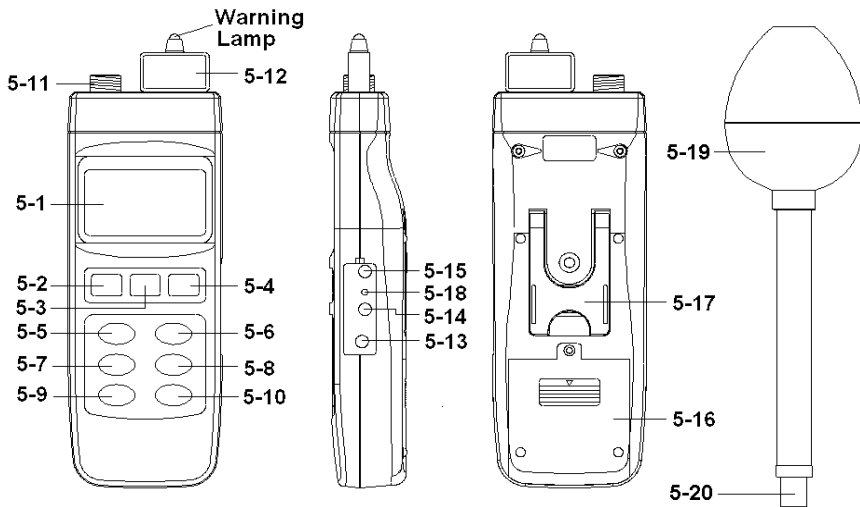

Fig. 1
2) After select convenient the probe, then plug in the exclusive " Probe Memory Card " ( 5-12, Fig. 1 ) into the front end socket of meter.
\* Make sure to use the " Frequency Team Button " ( 5-5, Fig. 1 ) to select the convenient frequency value of measuring object.
After inserting the " Probe card " ( 5-12, Fig. 1 ) and connecting probe's plug into the " Probe Input Socket " ( 5-11, Fig. 1 ), use " Unit Button " ( 5-6, Fig. 1 ) to select the " V/m, W/m2, mW/cm2 ".
1) Use the " Freq. Team Button " ( 5-5, Fig. 1 ) to select the approx. measuring object frequency value.
2) Make sure to use the " Frequency Team Button " ( 5-5, Fig. 1 ) to select the convenient frequency value of measuring object. However if you don't know the exact information, the meter will default to 1 GHz ( EP-03H probe ) or 1 MHz ( EP-04L probe ) after power on.
1) Power off the meter, use two fingers to press the " Alarm Button " ( 5-8, Fig. 1 ) and the " Logger Button " ( 5-10, Fig. 1 ) together continuously, then power on the meter by press the " Power Button " ( 5-2, Fig. 1 ).
2)\* Press the " Unit Button " ( 5-6, Fig. 1 ) continuously and > 2 seconds, the bottom display will show X\_axis , then release the button, the upper display will show the EMF value of X direction.
- \* Press the " Unit Button " ( 5-6, Fig. 1 ) continuously and > 2 seconds, the bottom display will show X\_axis , then release the button, the upper display will show the EMF value of X direction.
- \* Press the " Unit Button " ( 5-6, Fig. 1 ) continuously and > 2 seconds, the bottom display will show " V/m " , then release the button, the upper display will show the total EMF value of XYZ direction ( refer page 8 ).
- 1) Press the "Alarm Button " ( 5-8, Fig. 1 ) once to start the alarm function, while the " units " symbol will flash on the display.
- 2) Press the " Alarm Button " ( 5-8, Fig. 1 ) once again to stop the alarm function.
- 3) Press the " Alarm Button " ( 5-8, Fig. 1 ) continuously and over 2 seconds, the "Alarm low limit value " will indicate on the lower display, use the " ▼, ▲ Buttons " to adjust the desiring low limit value.
- 4) Press the " Enter Button " ( 5-4, Fig. 1 ) will save the low limit value and going to adjust the " High limit value, procedures will similar as above.
- 5) After finish the " High limit value " adjustment, press the " Enter Button " ( 5-4, Fig. 1 ) will save the high limit value and going to adjust the alarm Hysteresis value, procedures will similar as above. Upon finish the alarm " Hysteresis value " adjustment, press the " Enter Button " ( 5-4, Fig. 1 ) will save the data.
- 6) Press the " ESC Button " ( 5-3, Fig. 1 ) to finish alarm setting procedures.
During the measurement, press the " Hold Button " ( 5-3, Fig. 1 ) once will hold the measured value & the LCD will indicate a " HOLD " symbol.
- \* The data record function records the maximum and minimum readings. Press the " REC Button " ( 5-4, Fig. 1 ) once to start the Data Record function and it will be a " REC " symbol on the display.
- a) Press the " REC Button " ( 5-4, Fig. 1 ) once, the " REC MAX " symbol along with the maximum value will appear on the display.
Press the " REC Button " ( 5-4, Fig. 1 ) once again, the " REC MIN " symbol along with the minimum value.
If intend to delete the maximum ( Minimum ) value, just press the " Hold Button " ( 5-3, Fig. 1 ) once, then the display will show the " REC " symbol only & execute the memory function continuously.
- b) To exit the memory record function, just press the " REC Button " ( 5-4, Fig. 1 ) 2 seconds continuously at least. The display will revert to the current reading.
Press the " Peak Hold Button " ( 5-7, Fig. 1 ) once to latch peak value on the display , press once again to defect.
- a) If press the Logger Button " ( 5-10, Fig. 1 ) once will show the sampling time value on the bottom left display then disappeared.
- b) Press the " REC Button " ( 5-4, Fig. 1 ) once to start the Data Record function and it will be a " REC " symbol on the display.